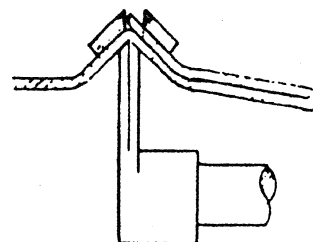

FIG.14-2
- B. Sewing edge of single-level material, put down the sewing material as Fig.14-2 showed.